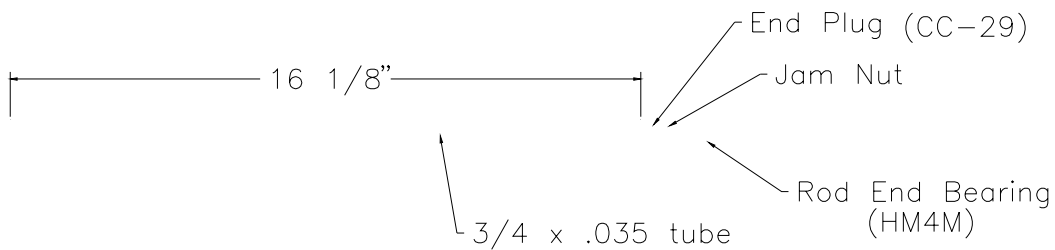

Figure 20.8.8
13) Cut two elevator push-pull tubes (CC-75) from 3/4" x .035 tubing (CC-51) and install end plugs and hardware. Figure 20.8.8.